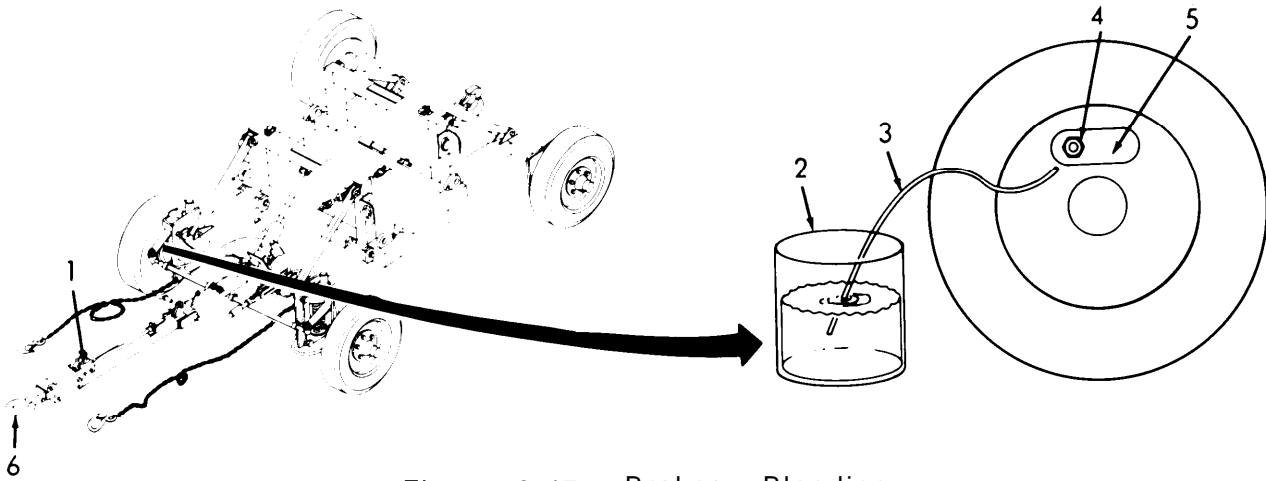

Figure 3-47. Brakes, Bleeding.
- (1) Fill master cylinder (1, Figure 3-47) with brake fluid (MIL-B-46176).
- (2) Position quart container (2) beside wheel. Partially fill container with brake fluid.
- (3) Connect one end of bleeder hose (3) to bleed screw (4) of wheel cylinder (5). Submerge other end of hose in container (2).
- (4) Loosen bleed screw (4) one full turn.
- (5) Pump lunette eye (6), to operate actuator, until fluid flow in container (2) is bubble free. Refill master cylinder as required.
- (6) Tighten bleed screw (4) and remove bleeder hose (3).
- (7) Repeat procedure for right side.